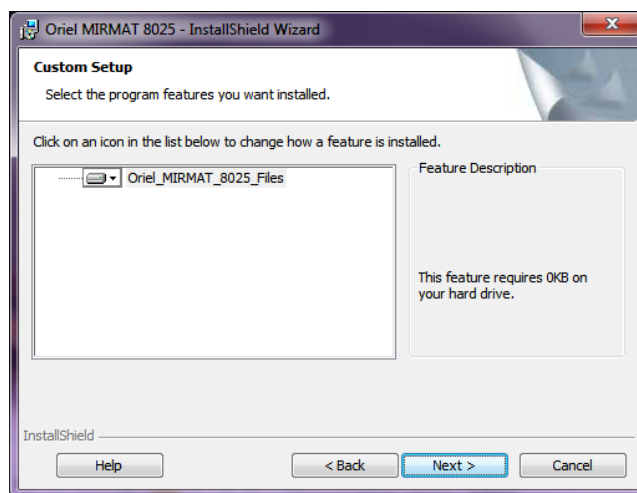

Figure 24: Select MIRMat Setup
19. Highlight “Mir80350_Drivers_Active” and click “Next” per Figure 24.